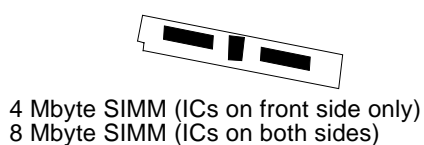

FIGURE 3-10 SIMMs
Remove the SIMMs from front to back. Press the small latch on each side of the SIMM that releases it from the slot (FIGURE 3-10).
**a. Remove first two SIMMs from slot D and slot C (FIGURE 3-10) and set them aside.**
The SIMM is keyed and will fit only one way (notch in lower left corner) (FIGURE 3-10).